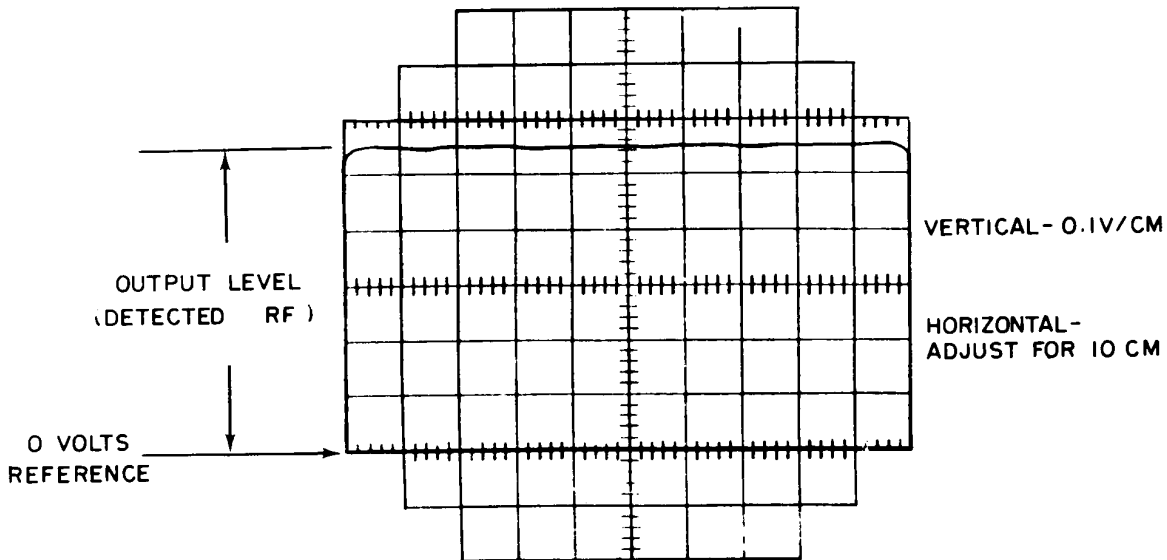

Figure 4. Oscilloscope display (typical).
- (2) Position TI controls as listed in (a) through (f) below:
- (3) Adjust oscilloscope (A4) to obtain a display as shown in figure 4.